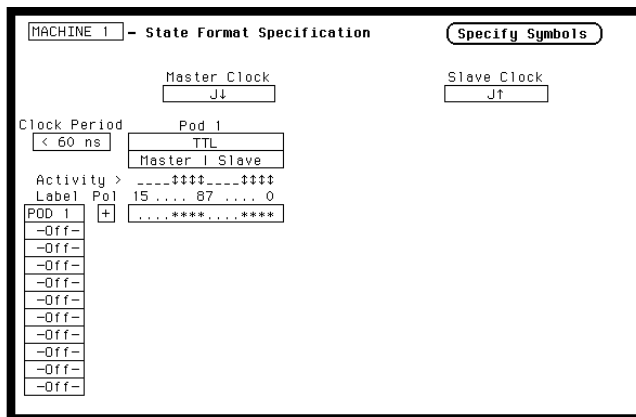

Figure 3-23. State Format Specification for Data Test 5
4. Set up the **State Format Specification** as in figure 3-23, assigning the falling J clock to **Master Clock** and the rising J clock to **Slave Clock**. Refer to steps a through d after figure if unfamiliar with the menu.